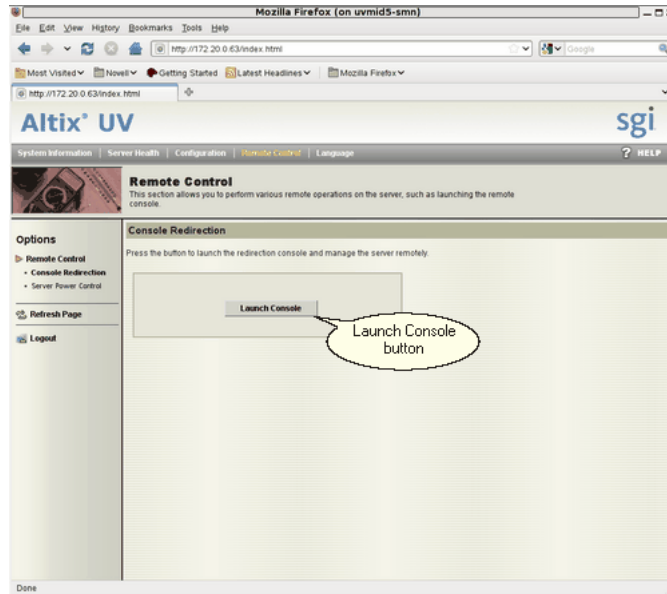

Figure 3-4 BMC Remote Control Console Redirection Screen
7. The **Console Redirection** screen appears, as shown in Figure 3-4 on page 41. Click on the **Launch Console** button.